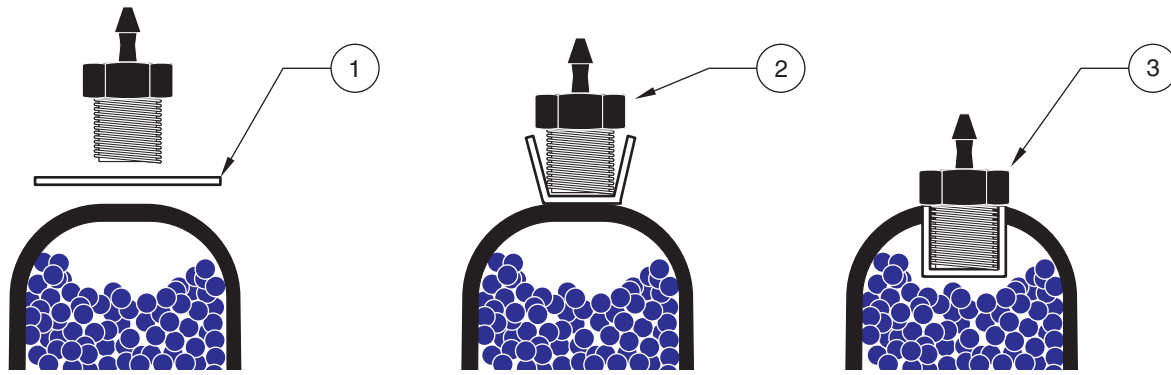

Figure 20 Replacing the Hydrophobic Filter
4. Place a new filter over the hole. Make sure that the smooth side of the filter faces the inside of the canister (Figure 20).